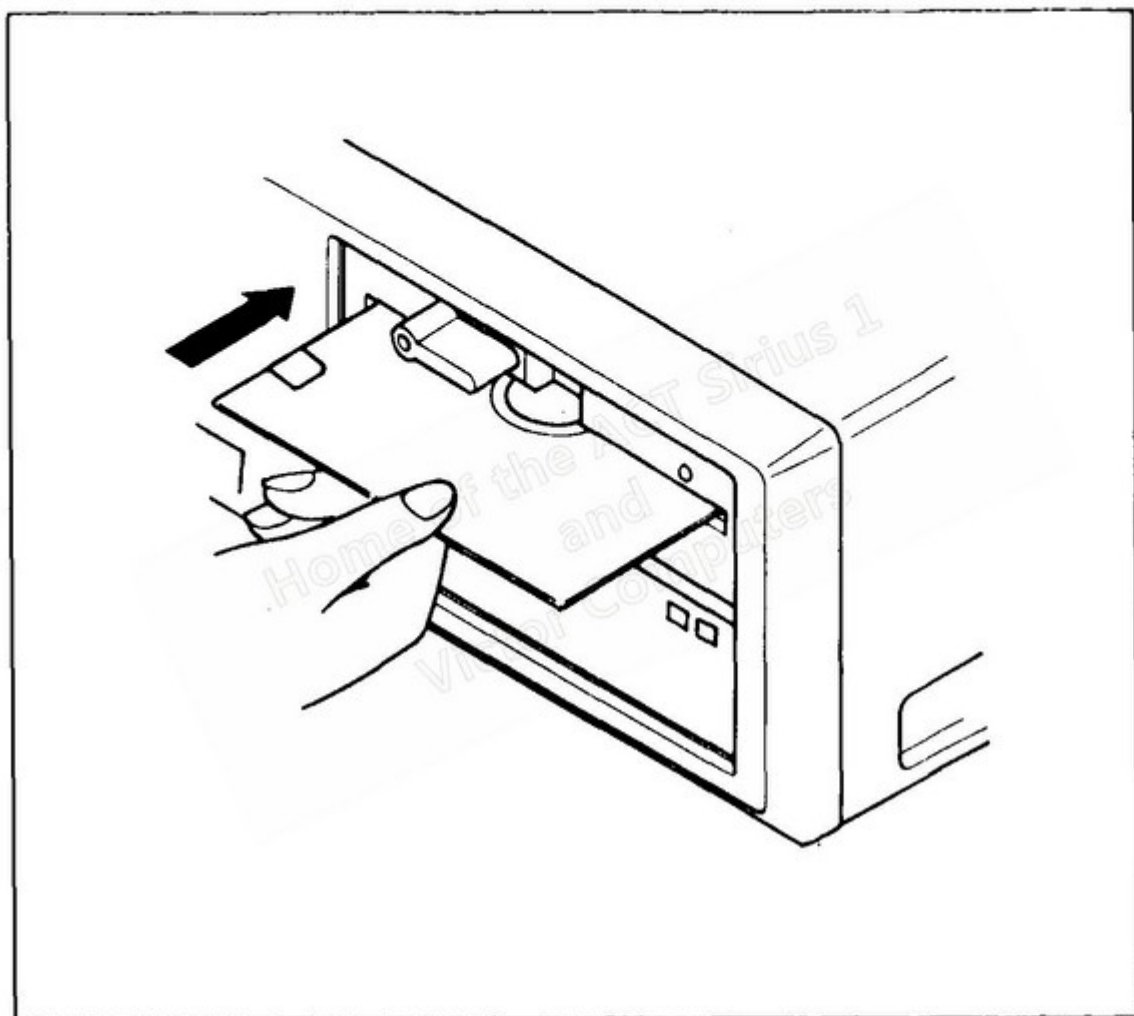

Figure 1-8: Inserting the MS-DOS Diskette
5. Insert master MS-DOS diskette 1 into floppy disk drive A (the top drive in a dual-floppy disk system), but do not close the drive latch. See Figure 1-8.